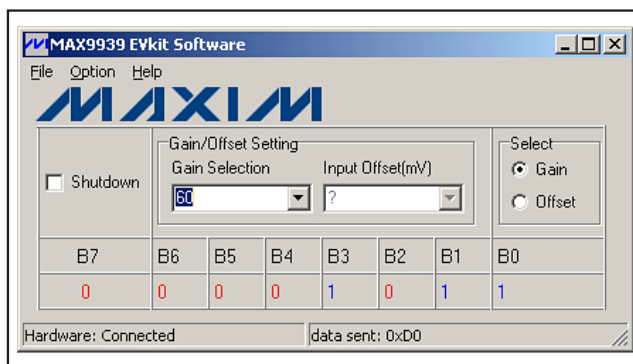

Figure 1. MAX9939 EV Kit Software Main Window
- 6) Start the EV kit software by opening its icon in the **Start | Programs** menu. The EV kit software main window appears, as shown in Figure 1. Observe as the program automatically detects the MAX9939 EV kit and starts the main program.
The MAX9939 EV kit software GUI (Figure 1) is a Windows program that provides a convenient means to control the MAX9939. By updating the **Gain/Offset Setting** group box or **Shutdown** checkbox, the correct SPI-compatible write operation is generated to update the internal registers of the MAX9939. Note, updating only the select radio group does not modify the internal registers.